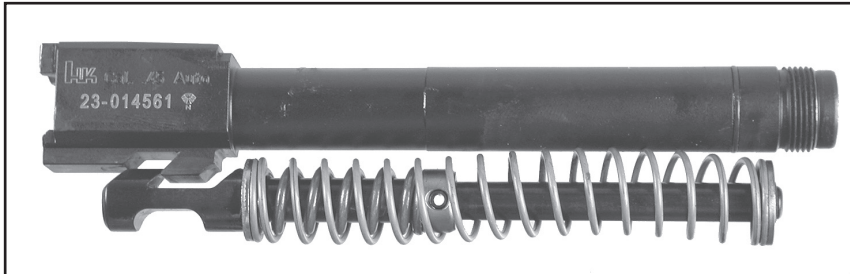

Figure 12 - Proper Position for the Captured Recoil/Buffer Spring Assembly on the Barrel Locking Block
5. Push the rear of the recoil/buffer spring assembly forward enough so that the recoil spring retainer can be engaged on the shelf provided on the front of the barrel locking block (see Figure 12).